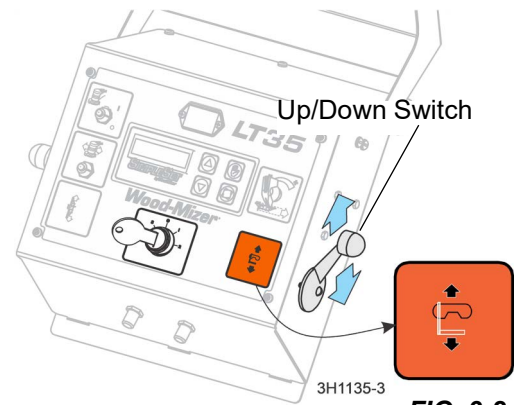

**FIG. 3-1**
2. Release the fender straps and lift up to remove the fenders. **See Fig. 3-1.**
7. Remove the fenders by lifting them out of the slots. **See Fig. 3-1.**